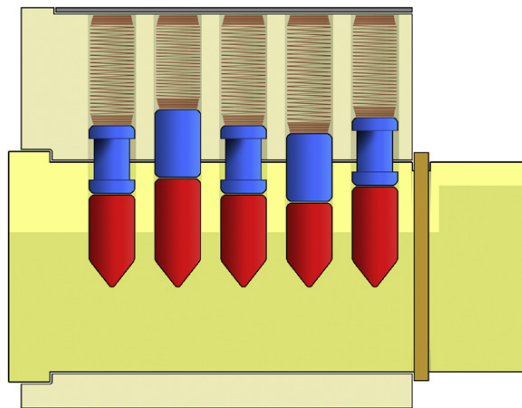

FIGURE 4.21
- **Progressive Spool Number Six**—Try that same five-pin lock again, but this time allow three of the five pin stacks to be assembled with spooled driver pins. This will now exceed much of what you are likely to encounter on a day-to-day basis where typical “hardware store” locks are concerned. If you can master this lock, you’re in very good shape with your “pick-resistant pin” skills (see Figure 4.21).